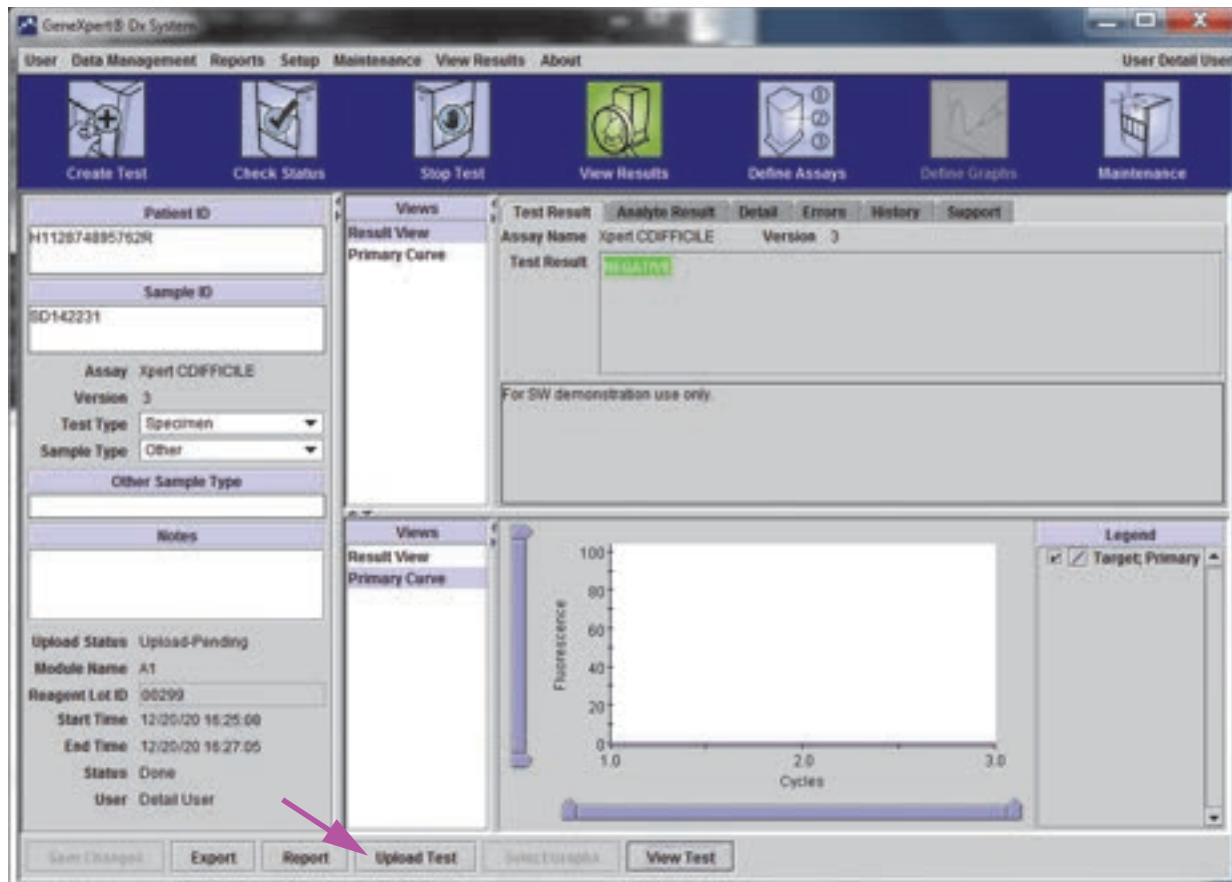
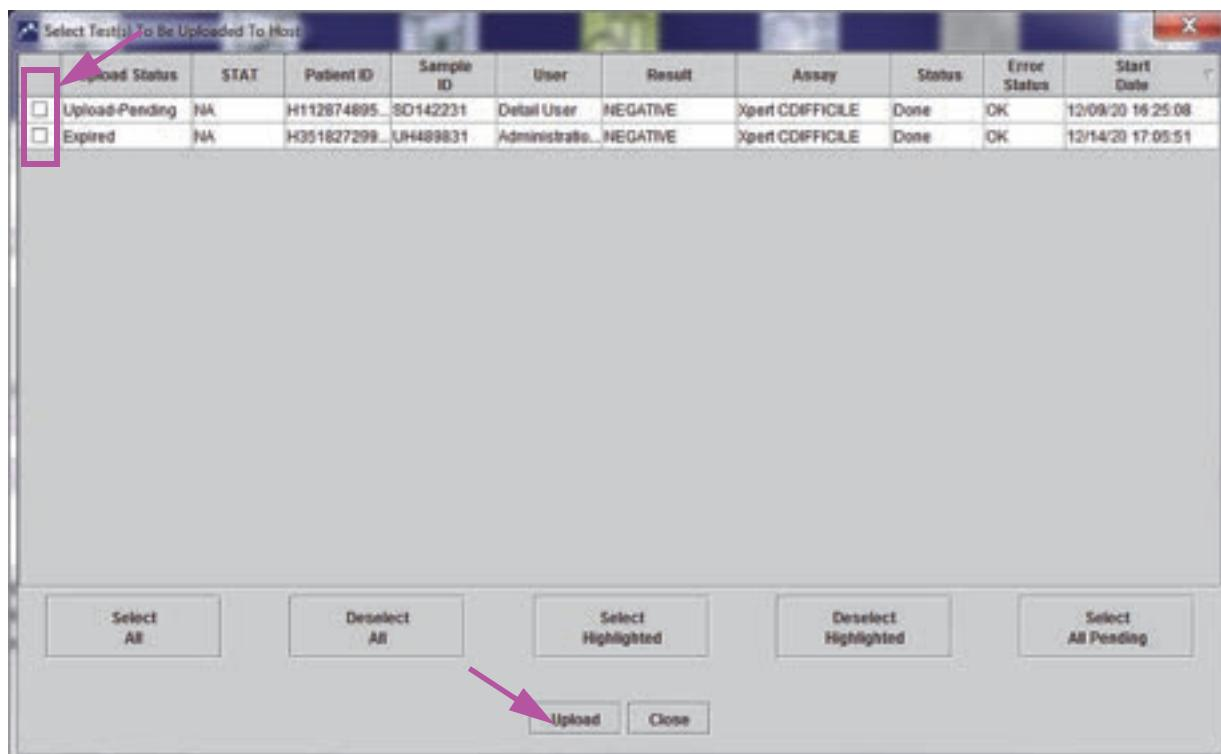

Figure 5-99. Host Upload Shown in the Test Information Area of the View Result Window
Figure 5-100. Select Test(s) to be Uploaded to the Host Window
After the test is completed, the result will be automatically uploaded. The Upload Status is shown in the Test Information area of the View Result window. See Figure 5-99.
2. Click **Upload Test** in the View Results window (see Figure 5-99). The Select Test(s) To Be Uploaded To Host window appears, displaying the completed tests. See Figure 5-100.